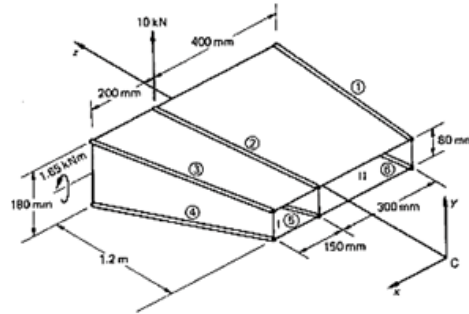

Figure 10
10. (a) A two-cell beam has singly symmetrical cross-sections 1.2m apart and tapers symmetrically in the y direction about a longitudinal axis as shown in Figure 10. The beam supports loads which produce a shear force $S_y = 10 \text{ kN}$ and a bending moment $M_x = 1.65 \text{ kNm}$ at the larger cross-section; the shear load is applied in the plane of the internal spar web. If booms 1 and 6 lie in a plane which is parallel to the yz plane calculate the forces in the booms and the shear flow distribution in the walls at the larger cross-section. The booms are assumed to resist all the direct stresses while the walls are effective only in shear. The shear modulus is constant throughout; the vertical webs are all 1.0mm thick while the remaining walls are all 0.8mm thick [7M]